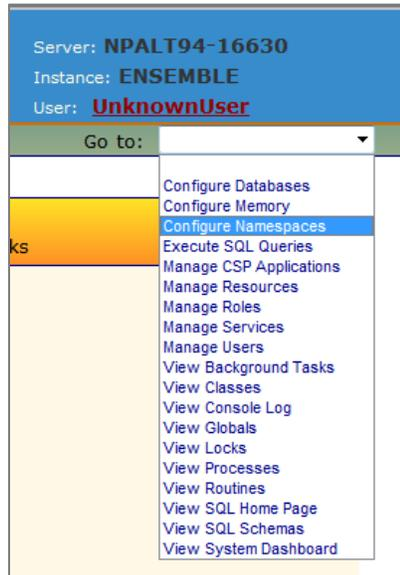

Figure 3-1: Go to list
2. Select **Configure Namespaces** from the **Go to** list shown in Figure 3-1: